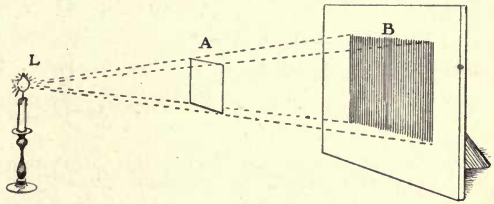

FIG. 196.
**Experiment 63.—Intensity of Light.** — Figure 196 furnishes an illustration of the way the intensity of light is affected by distance. Let  $L$  be a small source of light and  $A$  a screen one foot square, placed at a distance of four feet from  $L$ . Since light travels in straight lines, the area of the shadow of  $A$  on  $B$  placed eight feet from  $L$  will be four square feet.